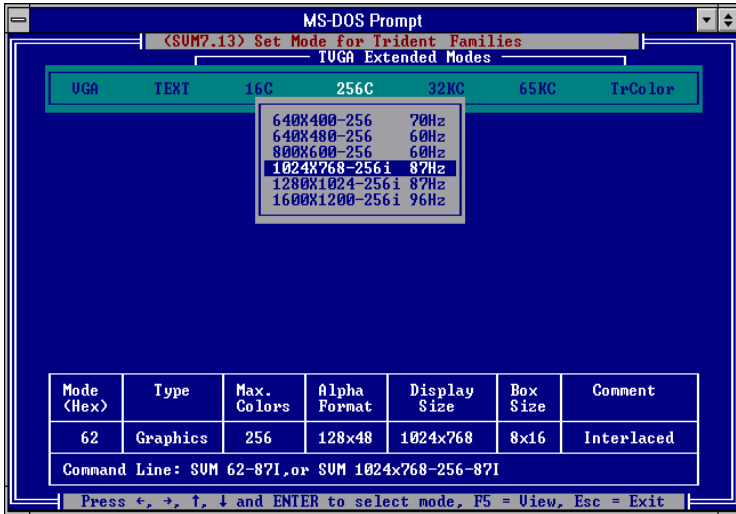

Figure 3-27.
- ☑ 2. **TYPE** SVM to call up the menu (see Figure 3-27).
The program provides all the different resolutions supported by the chip under each color depth. These resolutions are traversed by the up or down arrow keys. The graphics adapter can be tested for each resolution/ mode by first high-lighting the selection (e.g. 1024x768-256 colors as shown in Figure 3-27) by use of the arrow keys, then pressing the F5 key.